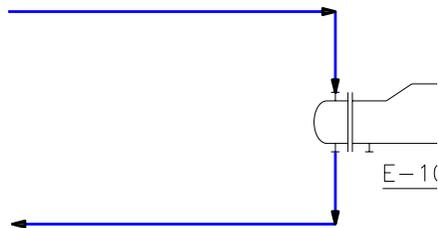

Figure 2-42 The steam inlet line and condensate line of the heat exchanger
- Similarly, create lines connecting the other two nozzles (steam inlet and outlet nozzles) of the heat exchanger, as shown in Figure 2-42. Next, assign tags **6"-CS150-P-2000** and **3"-CS150-SC-2002** to steam inlet line and condensate lines, respectively.